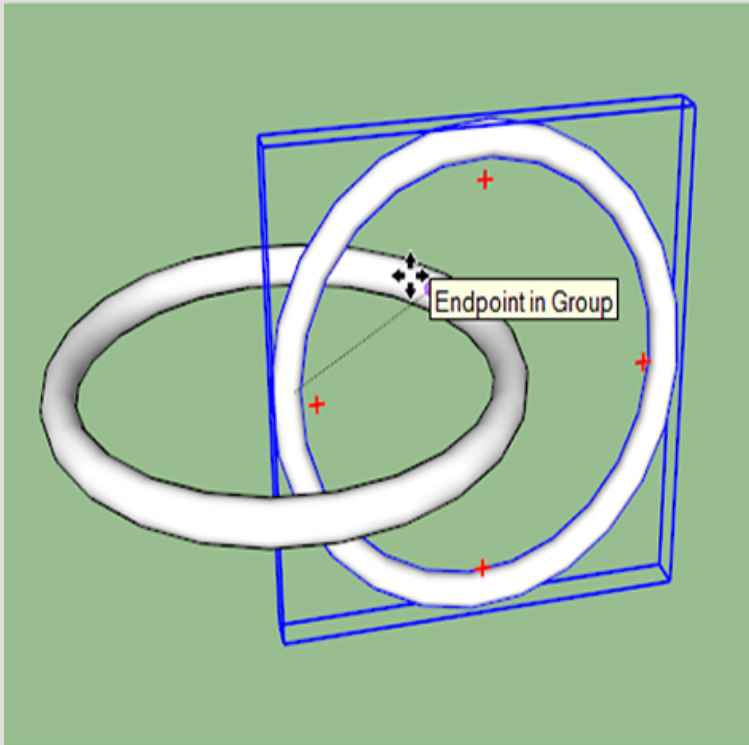

Figure 3-35 Use the Move tool to push the links together.
5. Move the two links together (Figure 3-35). Keep plenty of space between them; if they touch, they'll fuse together when 3D-printed.